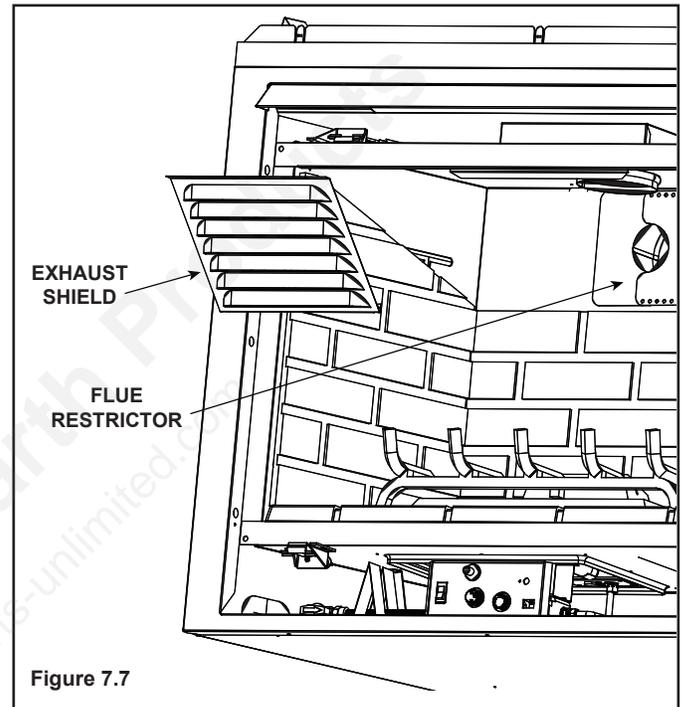

Figure 7.7
1. Remove exhaust shield using a 1/4 inch nut driver by removing the screws securing it in place. See Figure 7.7.
4. Center the two flue restrictor pieces on the vent at the setting selected in step 3 and secure in place by using two self-tapping screws. See Figure 7.7.